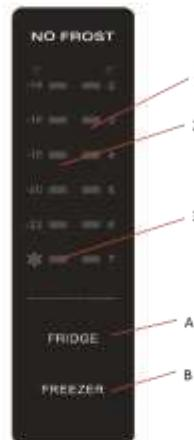

Fig.14
• To maintain the best flavour, nourishment and freshness of foods, it is advisable to store them in the refrigerator compartment as shown in fig.14 below, making sure to wrap them in aluminium or plastic sheets or in appropriate covered containers to avoid cross-contamination.